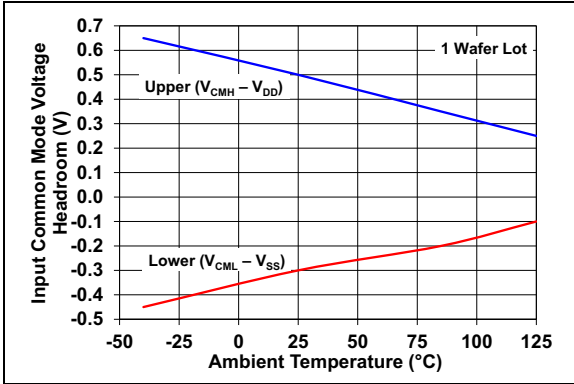

FIGURE 2-19: Input Common Mode Voltage Headroom (Range) vs. Ambient Temperature.
- 2:** Figure 2-19 shows how V_{CML} and V_{CMH} changed across temperature for the first production lot.
The input stage of the MCP6V61/1U/2/4 op amps uses two differential CMOS input stages in parallel. One operates at low Common Mode Input Voltage (V_{CM} , which is approximately equal to V_{IN+} and V_{IN-} in normal operation) and the other at high V_{CM} . With this topology, the input operates with V_{CM} up to $V_{DD} + 0.3V$ and down to $V_{SS} - 0.2V$, at $+25^{\circ}C$ (see Figure 2-19). The input offset voltage (V_{OS}) is measured at $V_{CM} = V_{SS} - 0.2V$ and $V_{DD} + 0.3V$ to ensure proper operation.